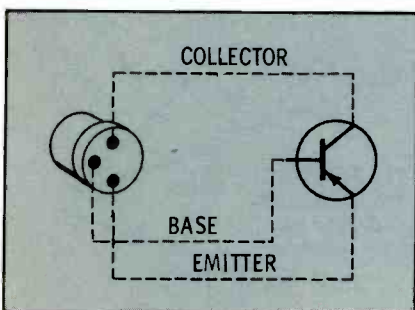

Fig. 2. Physical lead arrangement conforms to the transistor symbol used in most schematics.
3. With the leads pointed toward you, the physical positioning of most transistor leads corresponds to the schematic symbol (Fig. 2).
That last rule needs some explanation. Fig. 2 shows a lead arrangement that does not have a specific collector marking but our Rule 1